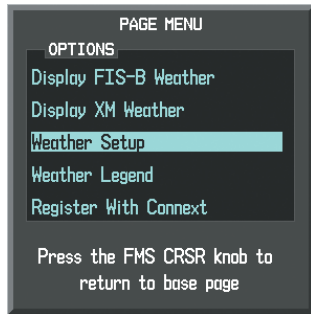

Figure 6-59 Weather Data Link (CNXT) Page Menu
- 3) With 'Weather Setup' highlighted, press the **ENT** Key (Figure 6-59).